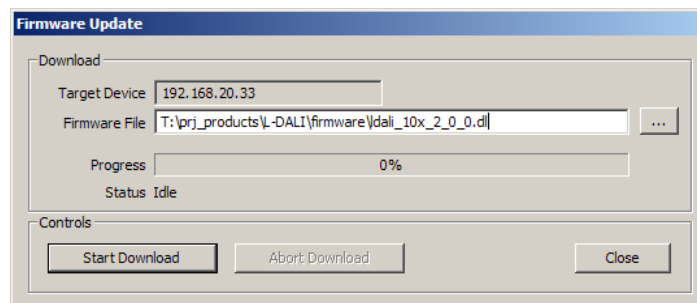

Figure 252: Firmware Update dialog of the LINX Configurator.
6. This opens the Firmware Update dialog as shown in Figure 252. Click on the button "...” and select the firmware image ("ldali\_10x\_2\_0\_0.dl").